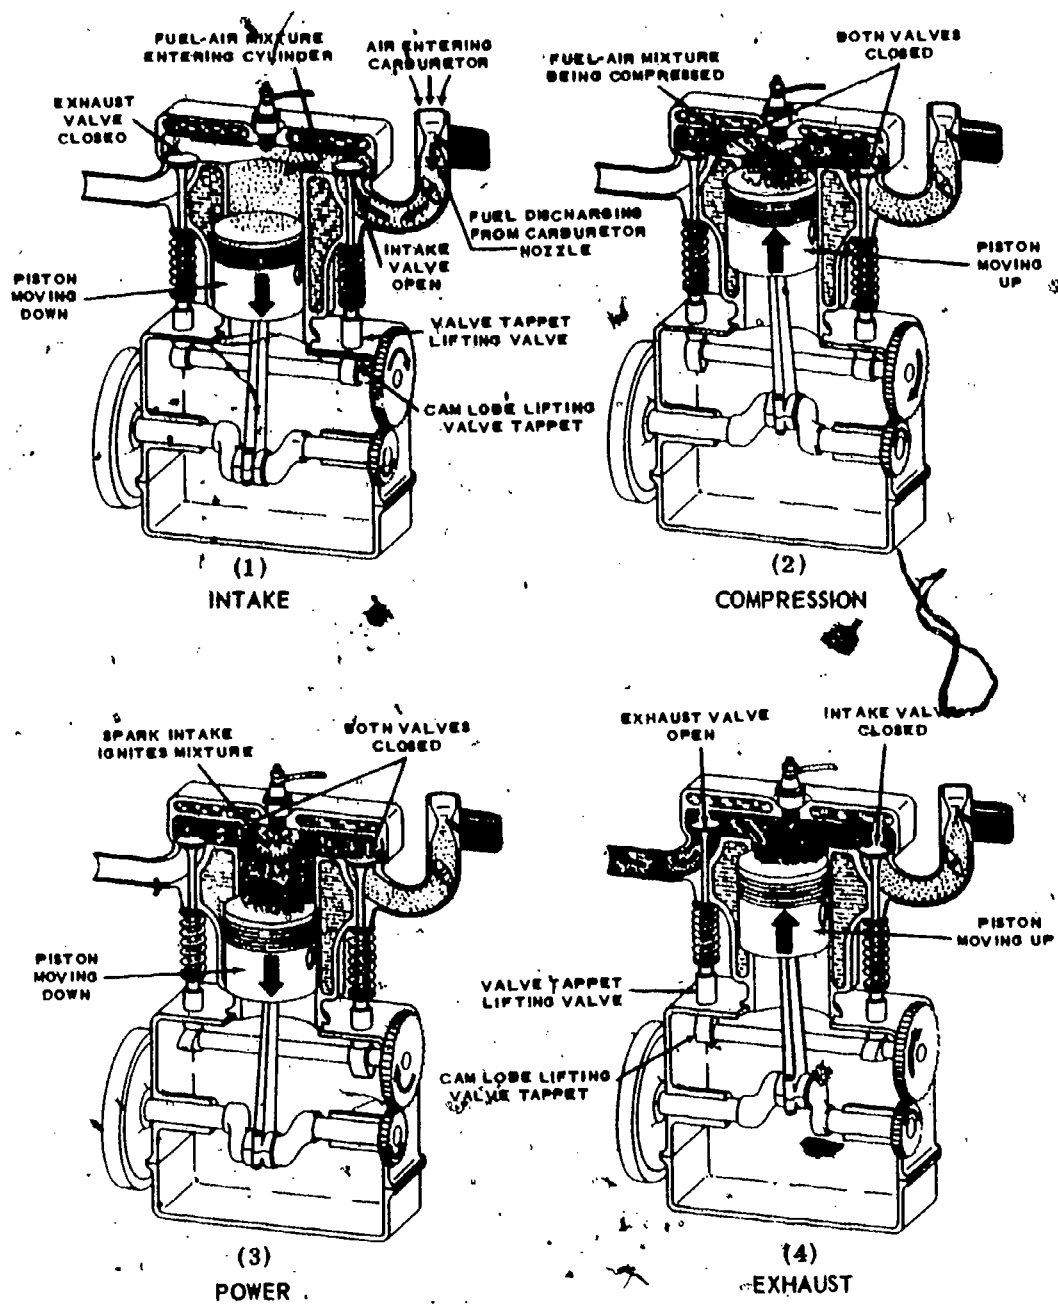

Fig 2-3. Four-stroke cycle in a gasoline engine.
(1) Four-stroke cycle in sequence (fig 2-3).